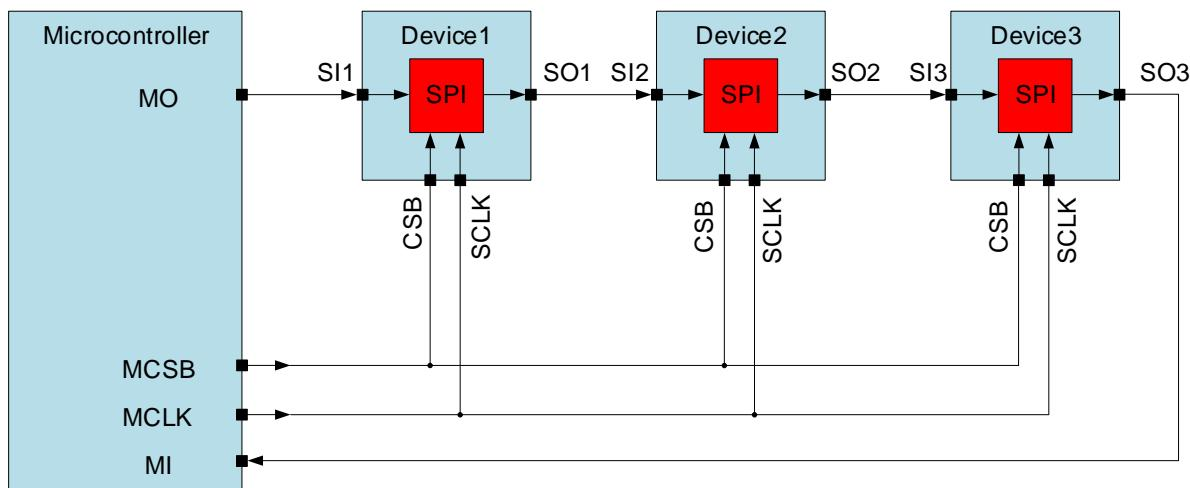
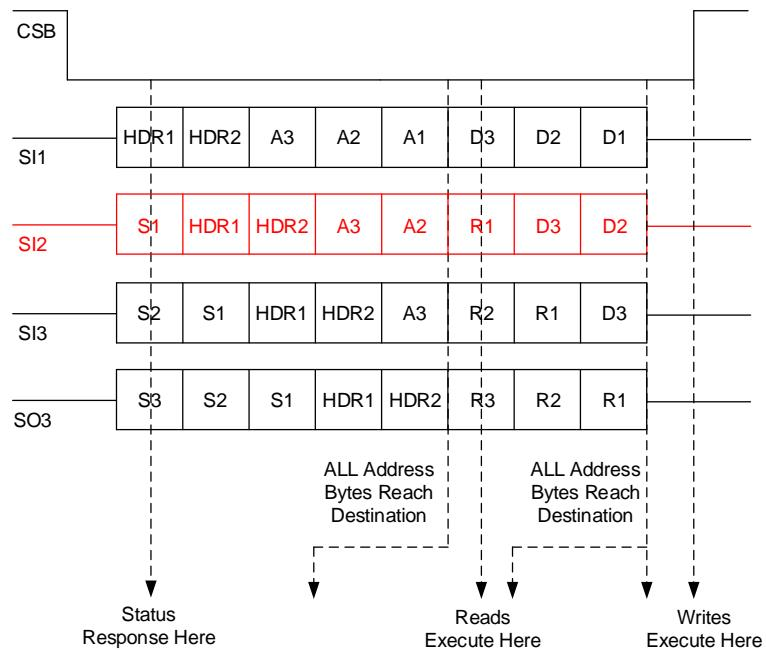

Figure 19. SPI Daisy Chain
Figure 20. Daisy Chain SPI Operation
The device supports daisy chain operation with devices with the same SPI protocol shown in Figure 20. The master output (MO) is connected to a slave SI and the first slave SO is connected to the next slave SI to form a chain. The SO of the final slave in the chain will be connected to the master input (MI) to close the loop of the SPI communication frame. In daisy chain configuration, a single chip selects, CSB, and clock signal, SCLK, connected in parallel to each slave device, are used by the microcontroller to control or access the SPI devices. Figure 19 shows the topology when 3 devices are connected in series with waveforms.
The first device in the chain shown above receives data from the master controller in the following format. See SI1 in Figure 20.
After the data has been transmitted through the chain, the master controller receives it in the following format. See SO3 in Figure 20.
The device can count the number of Status bytes behind the Header byte to recognize its position. As shown in Figure 20, the device 2 has One Status bytes (S1) behind the Header byte and the device 3 has Two Status bytes (S1, S2) behind the Header byte. When the device knows about its position and the number of devices connected in the chain, the device could load the relevant address and data byte in its buffer and bypasses the other bits. In this way, even the chain has 63 devices, the device still works fleetly.